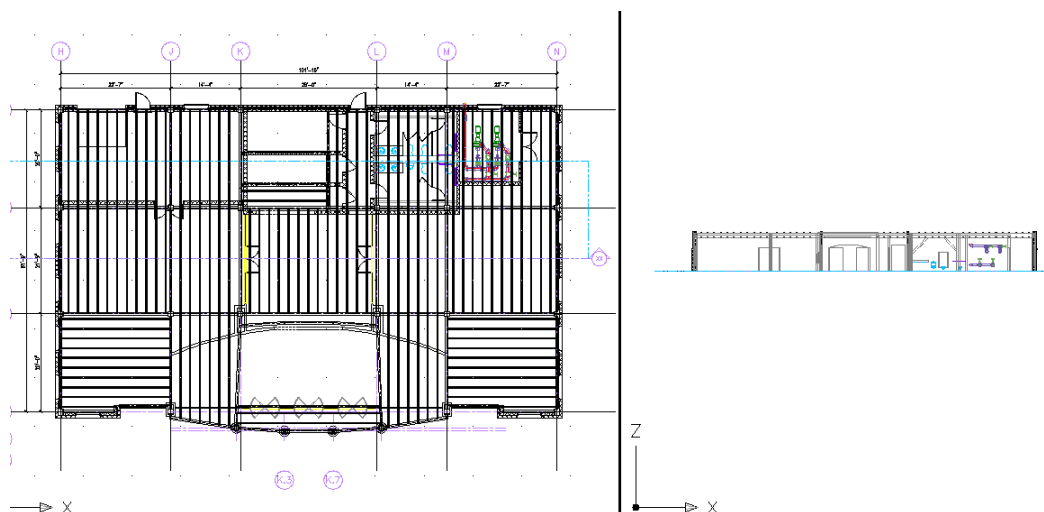

Figure 6.78
20. On the Appearance panel, scroll the view buttons to locate Front view and then click it (see Figure 6.78).